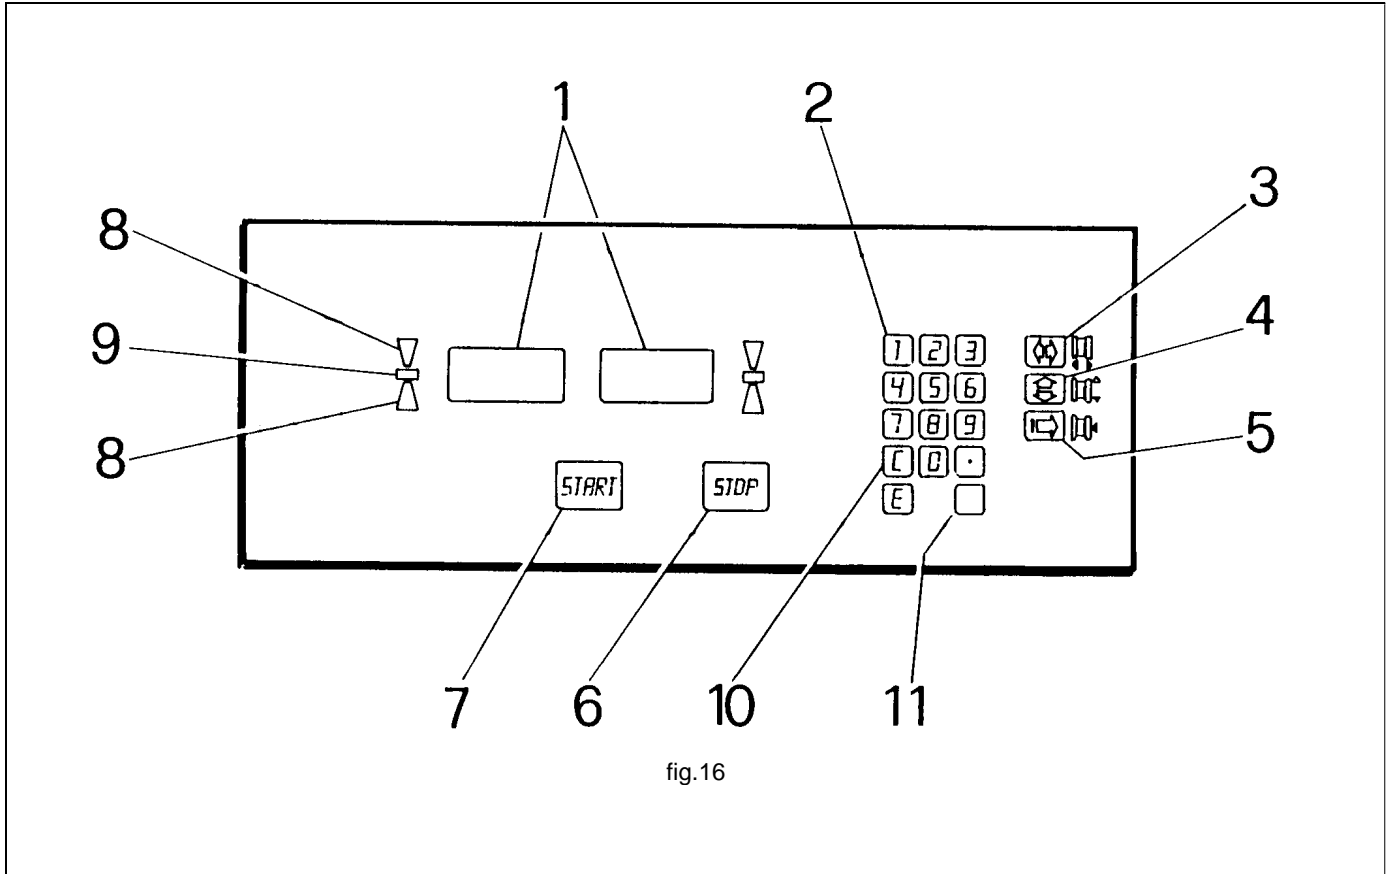
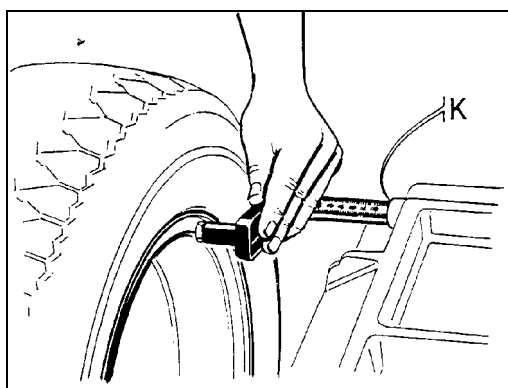
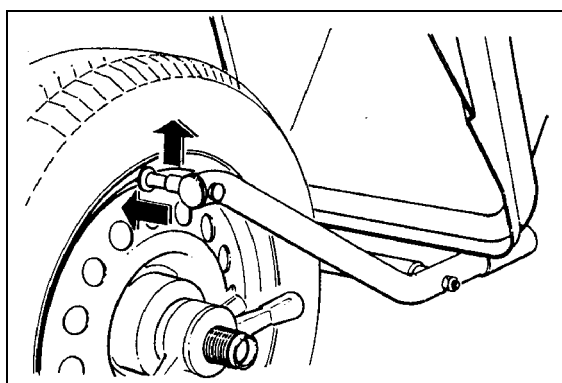

fig.16
fig.18
fig.19
- The displays (**fig. 16**) (1) read "0".
- Close the wheel protector guard and push the **START** button (**fig. 16**) (7) to start the measuring cycle.
- The wheel guard must not be opened before stopping. In an emergency the **STOP** button (**fig. 16**) (6) shuts down the machine.
- The LED arrows (**fig. 16**) (8) indicate the direction in which the wheel has to be rotated to reach the position for balancing (separate arrows for each side of the wheel).
- The wheel has to be rotated by hand until the **LED** (**fig. 16**) (9) lights up.
The diameter of the rim is read on the tire, and the rim compensation distance is measured with the gauge cursor on the machine (**fig. 18**). The compensation distance figure to be set is read on the scale.
Programming is effected by positioning the **internal gauge (fig. 18)** and the **external gauge (fig. 19)** against the rim and waiting for the confirmation "beep".
- a) Press **3** (fig.16) and set the wheel width in inches (e.g.: 6.0 or 5.5 etc.) then press **E**
- b) Press **4** (fig. 16) and set the wheel diameter in inches (e.g.: 13" or 14") then press **E**
- c) Press **5** (fig. 16) and set the distance of the wheel from the machine body in mm. (e.g.: 80mm, 65mm etc.): this distance is shown on the graduated gauge rod (fig.18) then press **E**
- 7 - Press **1 O O E** (fig.16) (it is possible to use a weight other than 100g: if the weight is 80g, press **8 0 E**).